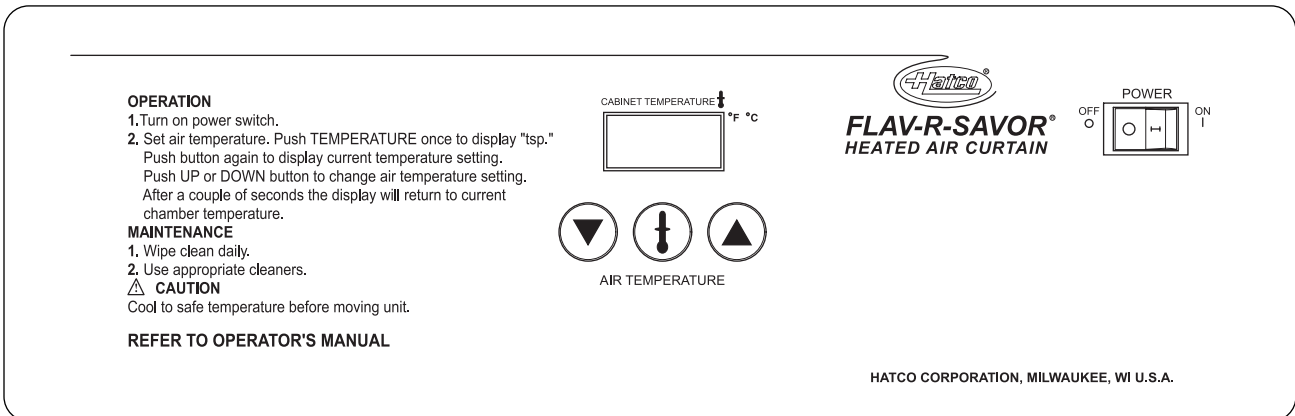

Figure 10. FSHAC Control Panel
2. Turn the Power Switch on the control panel to the ON position. The Power Switch and the Digital Display will light up at this time. (See Figure 10.)